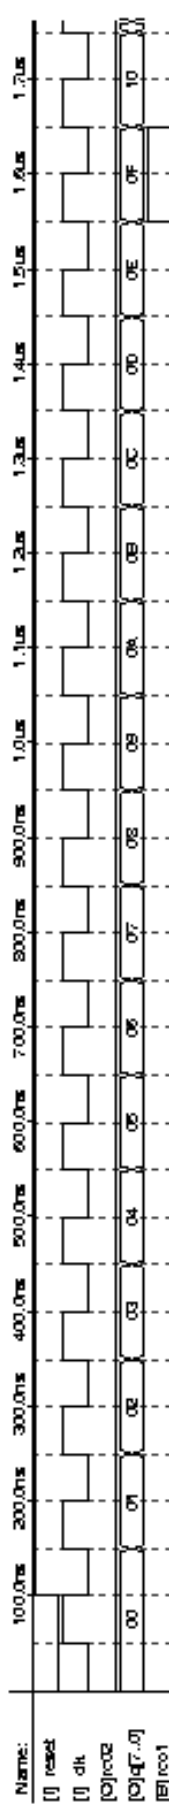

FIGURE 2. FUNCTIONAL SIMULATION
- Overwrite simulation input file with simulation resultsThen click the Start button. You should see a functional simulation that shows the operation of the 8-bit counter circuit. Note that the node rco1 was not simulated. It is generally difficult to simulate internal nodes using Quartus. In order to simulate rco1, you could connect it to an output pin. Compare your simulation waveforms to those shown in Figure 2.